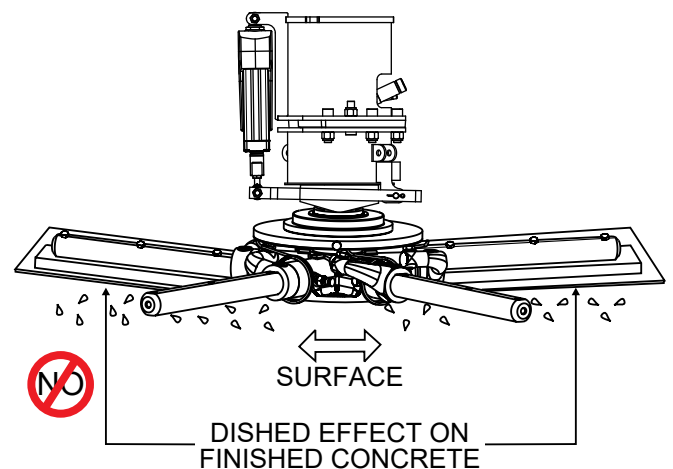

Figure 43. Incorrect Spider Alignment
3. If any adjustment bolts are not making contact with the lower wear plate, adjustment will be necessary. Figure 43 illustrates incorrect alignment, worn spider bushings, or bent trowel arms.